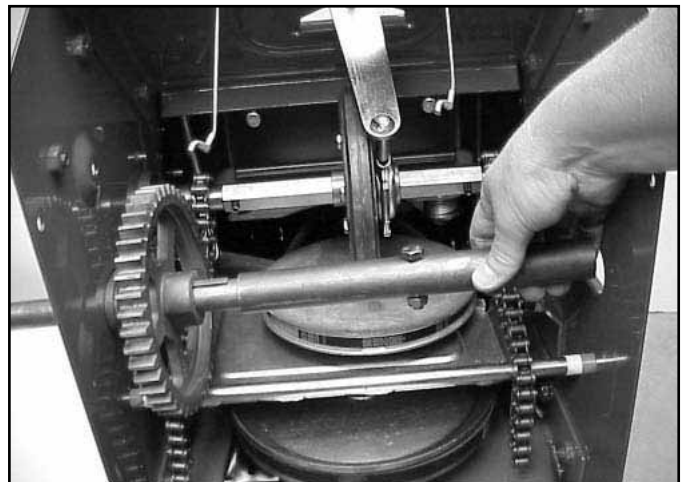

Fig 129
13. Slide tube of axle shaft through housing (Fig. 129).